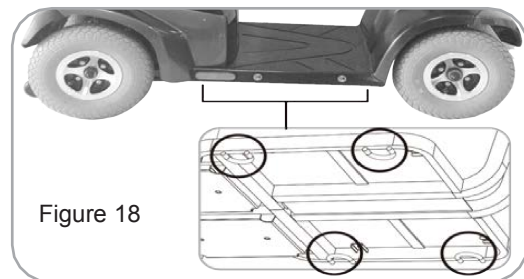

Figure 18
- Make sure the scooter's N-D lever is in D position when transporting. (Figure 18)